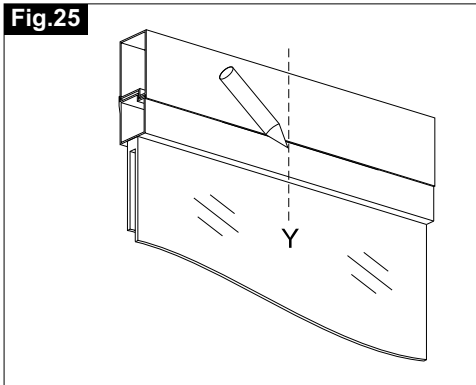

Fig.26
- 3) **Fig.26-** Align to the centre line the bracket connecting it to the window frame using as reference the centre line indicator (**Ref.1**) located in the centre of the same positioning the bracket at a height of 39 mm from the frame and mark the drilling points on the frame;